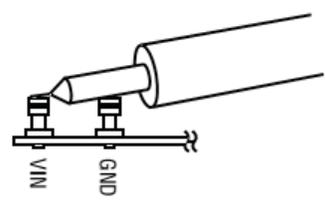

Figure 9. Measurement Input or Output Ripple
**NOTE:** When measuring the input or output voltage ripple, care must be taken to avoid a long ground lead on the oscilloscope probe. Measure the output voltage ripple by touching the probe tip and probe ground directly across the  $+V_{OUT}$  and  $-V_{OUT}$  terminals. See Figure 9 for proper scope probe technique.